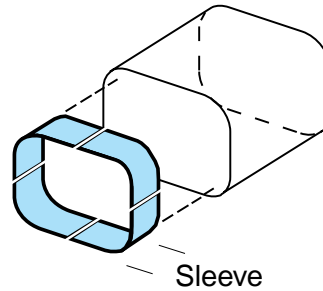

Fig. 3.17 — Cut Sleeve to Make L-Shaped Pieces
- 3 Cut through each side of the sleeve to create four individual "L" shaped pieces that can be installed in the undamaged portion of the frame rail (Fig. 3.17).